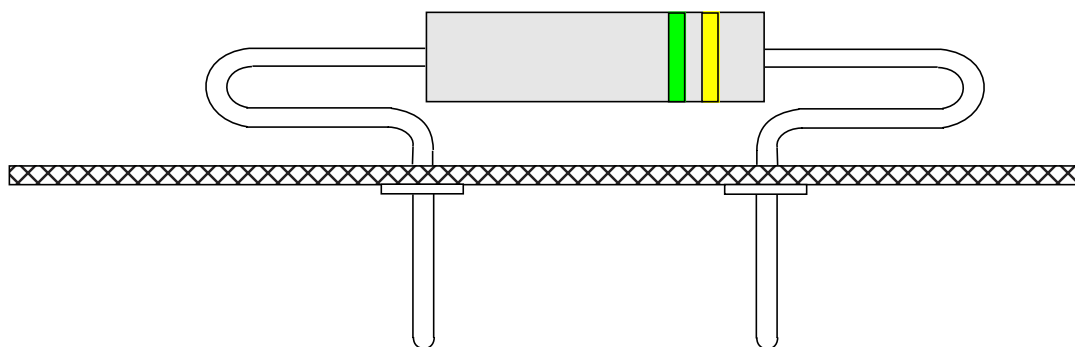

Figure 4 - Non-Standard Body Mounting
- 5.4.4.2 Mount components whose body length exceeds the distance between the mounting holes over the holes and leads approximately as shown in Figure 4. Ensure a clearance between the component body and the leads of at least $1/32"$.